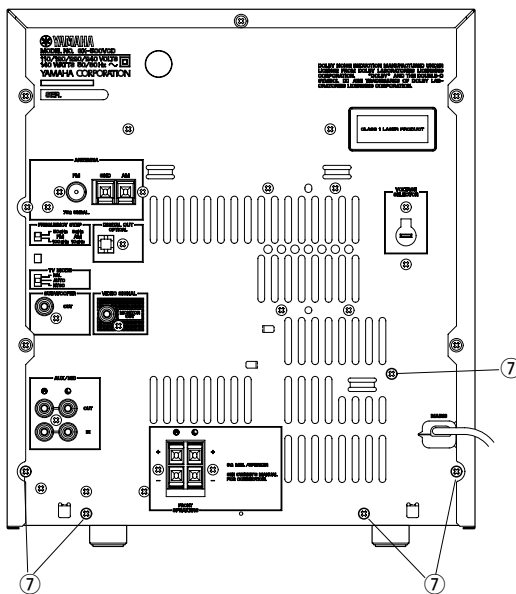

Fig. 6
6. Operation Check of P.C.B. Main (1)
- Remove 5 screws (⑦) in Fig. 6.